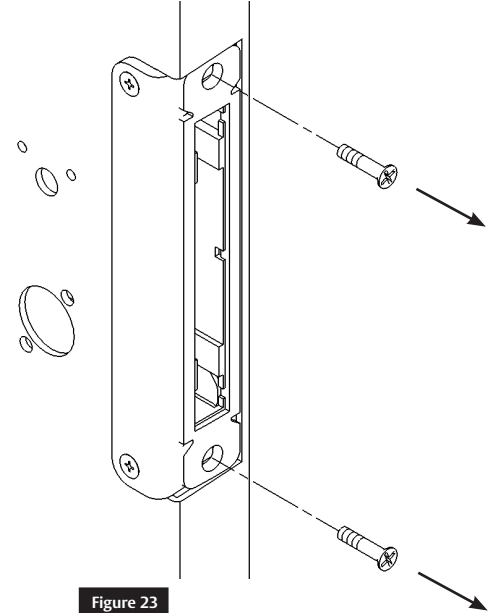

Figure 23
1. Remove two (2) #12-24 x1" flat head mounting screws. (Figure 23)